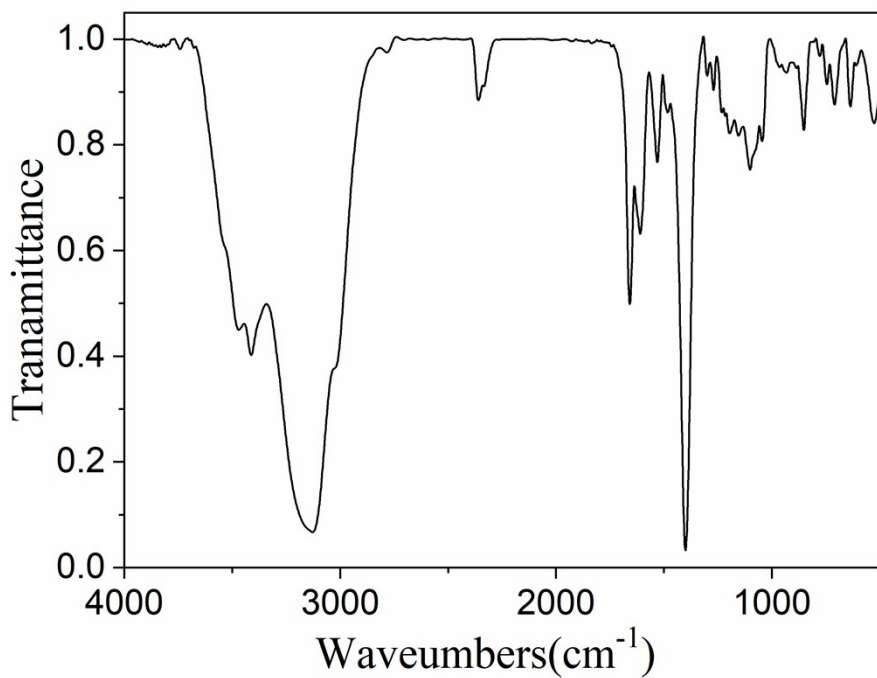

Figure S3. The FTIR spectrum of L1.
3. **Figure S3.** The FTIR spectrum of **L1**.